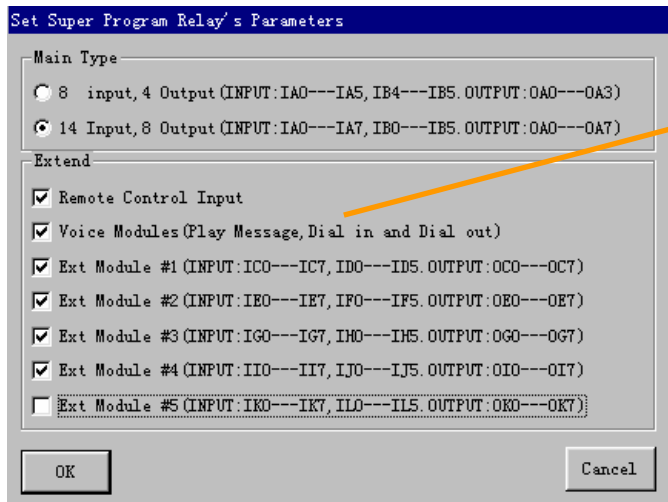

Fig. 6.5 Hardware Configuration
4. User must edit the Remote control instruction in control program, such as Fig.6.5